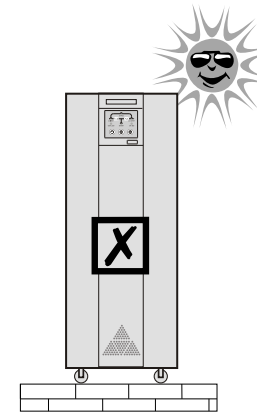

Figure 5
3. Do not install UPS under sunlight, drain and damp place. (Figure 5, 6)